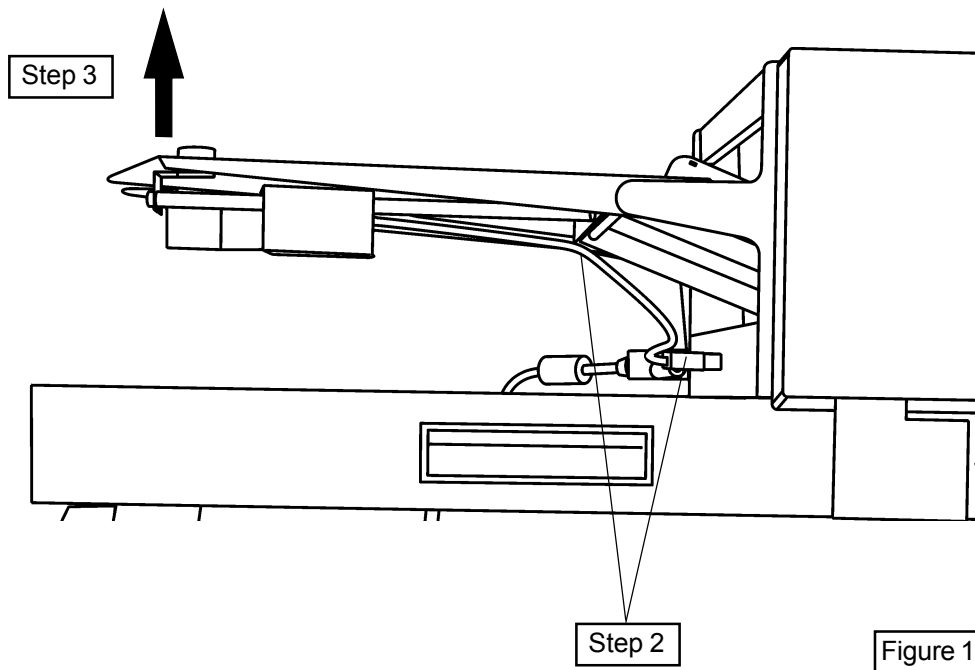

Figure 1
2. Remove the Bin extension plate connector and ground wire, according to figure 1.
3. Lift up the Bin extension plate and remove it according to figure 1.